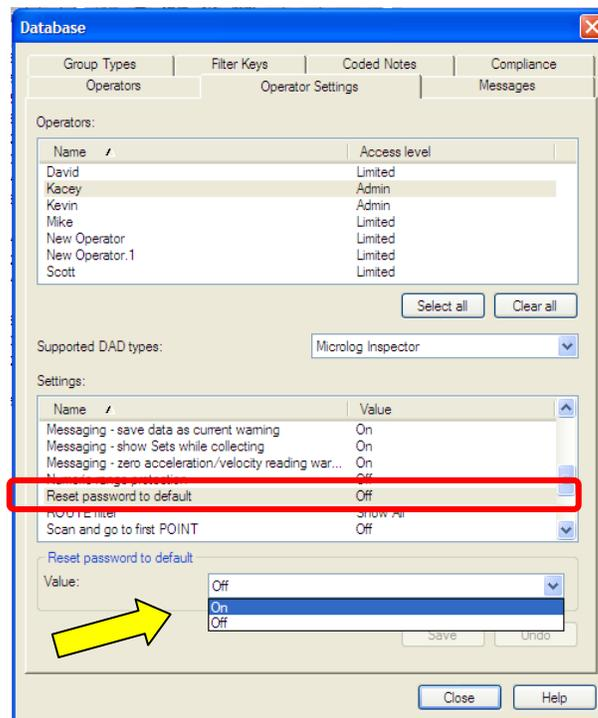

Figure 4. Reset password to default
- Under the **Settings** section below, select **Reset password to default**, and change the value to **On**. [Figure 4]